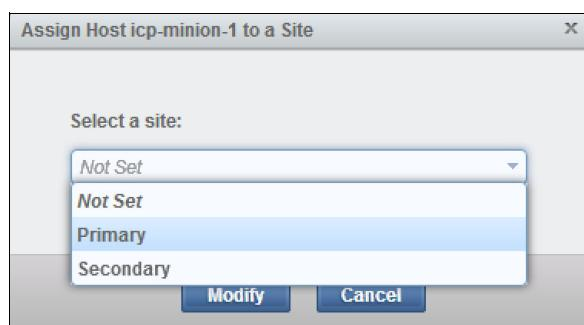

Figure 4-38 Options for assigning host to a site
- Figure 4-38 shows the site options provided to assign to an individual host. Each host should be assigned to the site corresponding to their physical location.